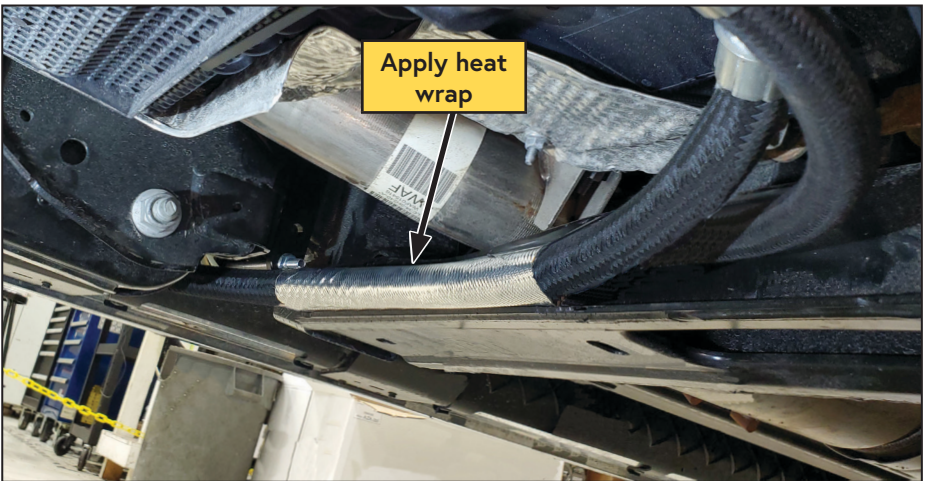

Figure 31 — Routing the hoses
- ☐ Route the 3/4 in hose, and 1/2 in hose over to the transmission crossmember, and along the front of the crossmember to the driver side of the vehicle (Figure 31).
- ☐ Using the supplied 1 in and 3/4 in heat wrap, protect the 3/4 in and 1/2 in hoses where they pass below the exhaust (Figure 31).